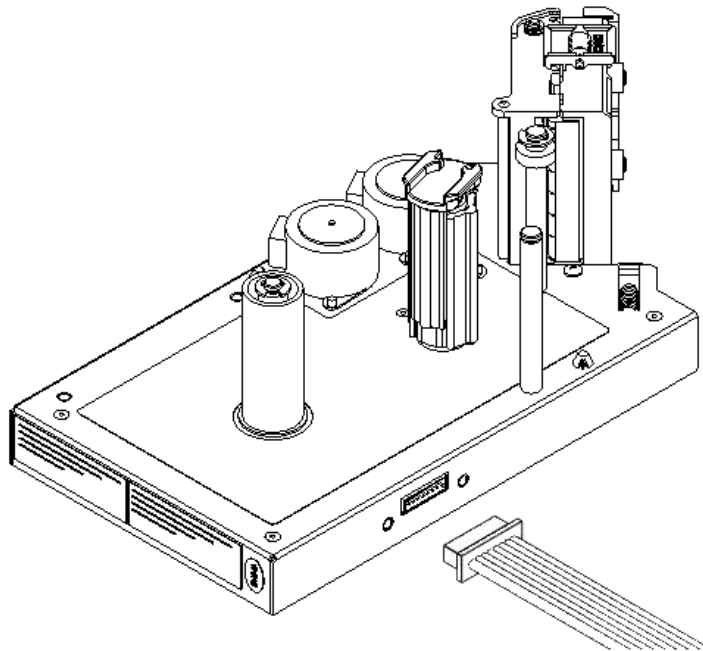

Figure 4.4.1 Connecting Cable
- 2) Put matched interface cable into corresponding socket (figure 4.4.1).